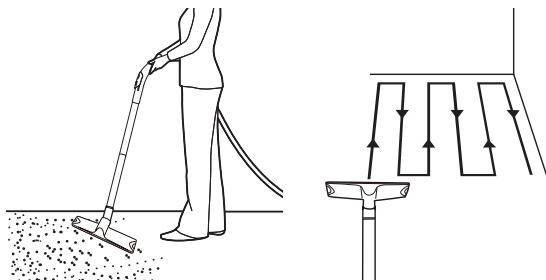

Fig. 25
- > Attach the extension tube(s) (19) onto the hose handle (18a) if required.
- > Move in slight overlapping rows. The most effective pattern is straight lines along one of the sides. This will keep the rows even and ensures that the entire working surface is cleaned up without missing any spots (Fig. 25).